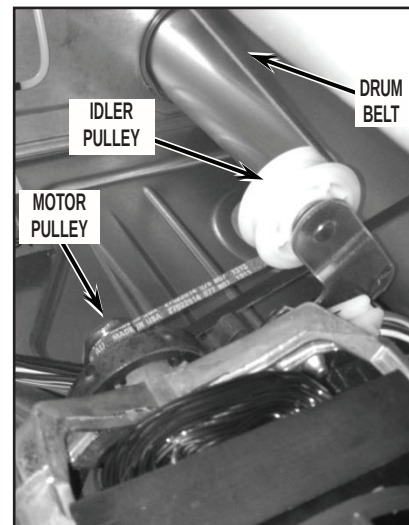

FIGURE 9
11. Remove the drum belt tension by reaching into dryer just under the drum to back side of drive motor. Grasp idler pulley and lift up to relieve tension from belt and remove belt from motor pulley and lower the idler slowly. See *Figure 9*.